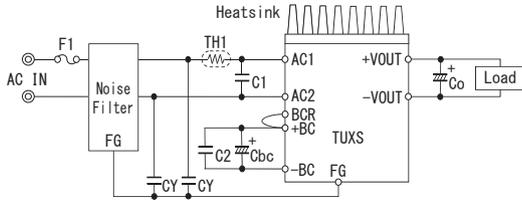

Fig.1.1 Connection for standard use
- To use TUXS series, connection shown in Fig.1.1 and external components are required.
(1) Co : Output capacitor
■ Install an external capacitor Co between +VOUT and -VOUT pins for stable operation of the power supply (Fig.1.1).